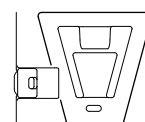

Fig. 4
- You cannot join the modules together if the V edge of the recording extension module is down. (Fig. 3) Push down the recording extension module release lever of the recording extension module to raise the V edge. (Fig. 4)